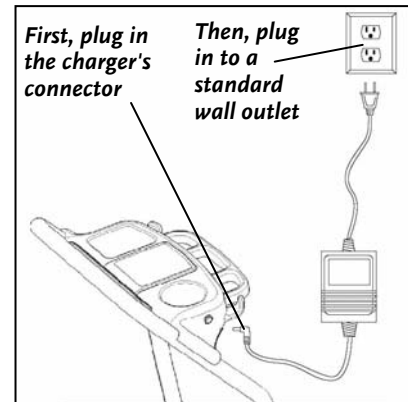

Figure 9. Charging your Cart's battery
- Plug the charger connector into the charger receptacle on the right side of the controls caddy (**Figure 9**).